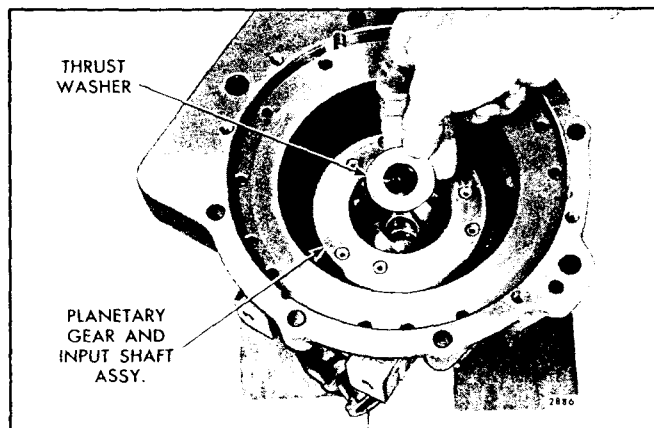

Fig. 70 - Installing Planetary Gear Thrust Washer
- a. With the reverse gear housing still supported on the drive flange or the wood blocks and with the forward face of the gear housing facing up, install the planetary gear thrust washer down inside of the planetary gear as shown in Fig. 70 and center the thrust washer over the drive gear input shaft bore.